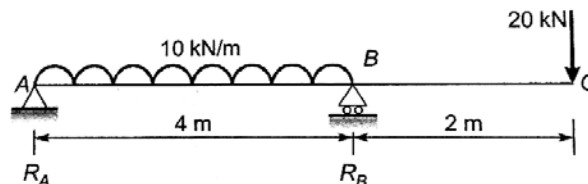

Fig. 2
- (b) For the overhanging beam shown in figure 2. Draw its shear force and bending moment diagram.